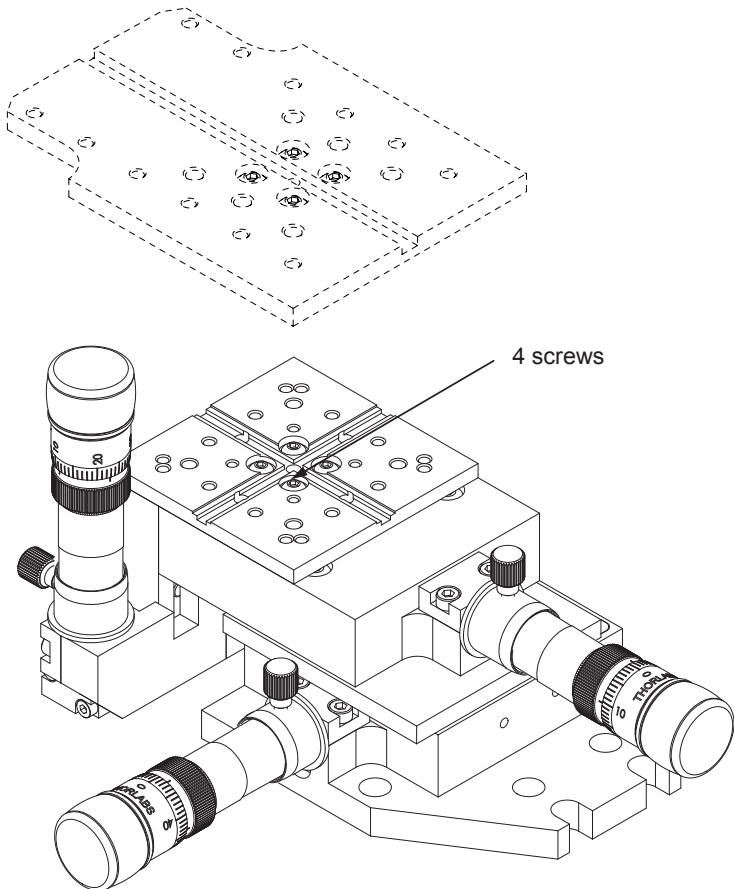

Fig. 4.1 Fitting an extended top platform
- 1) Remove the four retaining screws (see Fig. 4.1).
- 3) Refit the screws removed at item (1).